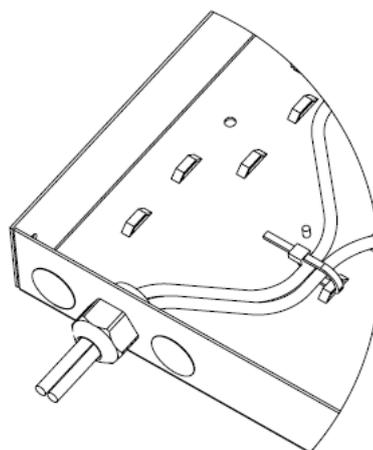

Fig. 4
3.3.2 Back Cable Entry & Retention (Fig. 4)
- Cable gland to be assembled to the enclosure in entry holes as shown in Fig.4.